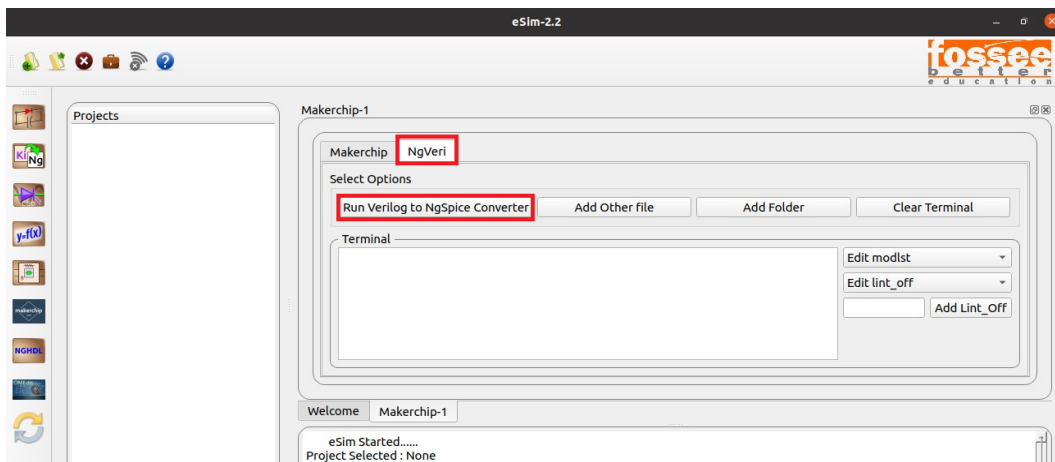

Figure 10.22: NgVeri interface buttons
2. Click on **NgVeri** button and then click on **Run Verilog to Ngspice converter** button as shown in Fig. 10.22. This step will convert 8 bit counter's verilog file to Ngspice model. The commands that run in the NgVeri terminal leads to creation of Ngspice(XSPICE) model of 8 bit counter are mentioned in following steps.